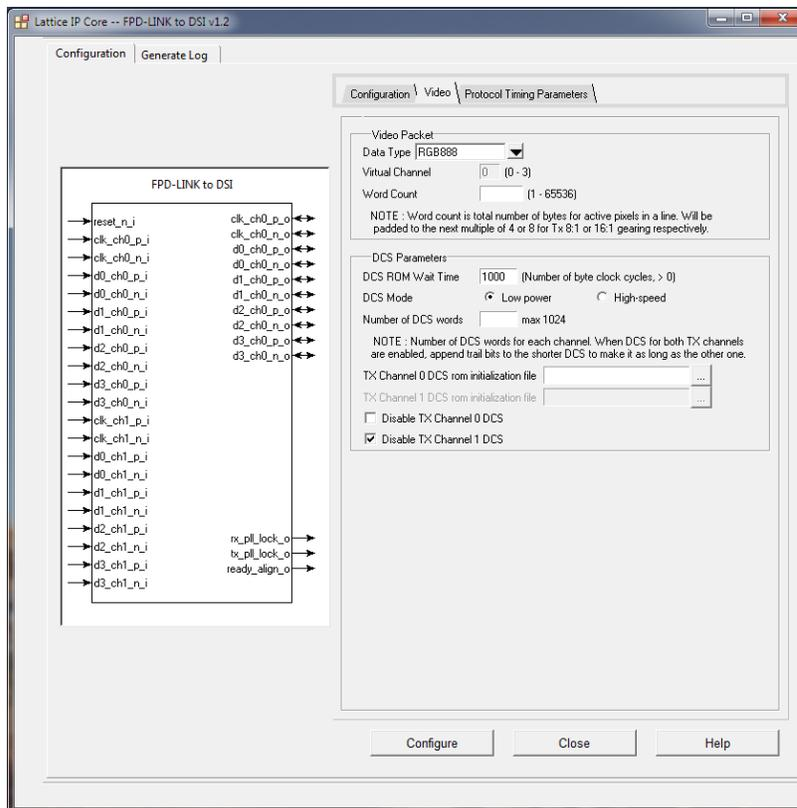

Figure 4.5. Video Tab in IP User Interface
5. Go to **Video** tab and input valid values in the required fields. See Figure 4.5.